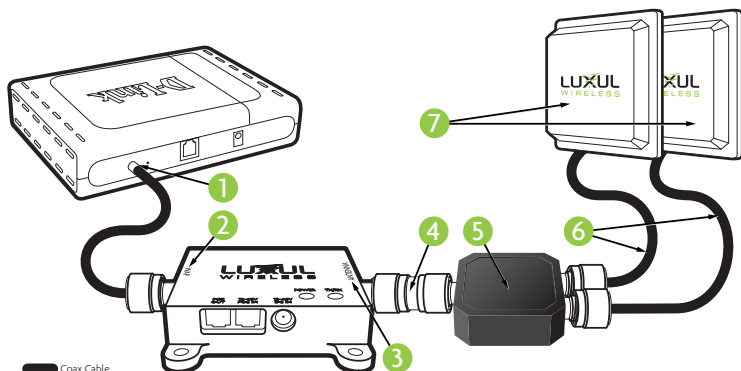

Figure 3 — Coax Cable
Using the supplied N-Male to RP-SMA-Male coax cable, connect the Shock-WAV Wi-Fi Signal Booster to your DWL-2100AP's Antenna port . (Figure 3) ①. Be sure to connect the cable to the side of the Signal Booster labeled WAP ②. Next use the included barrel connector ④ to connect the splitter ④ to the side of the Signal Booster labeled Antenna ③. Using the two N-Male to N-Male cables ⑥ connect the Splitter to the two X-WAV XW-24-FP7 antennas ⑦.